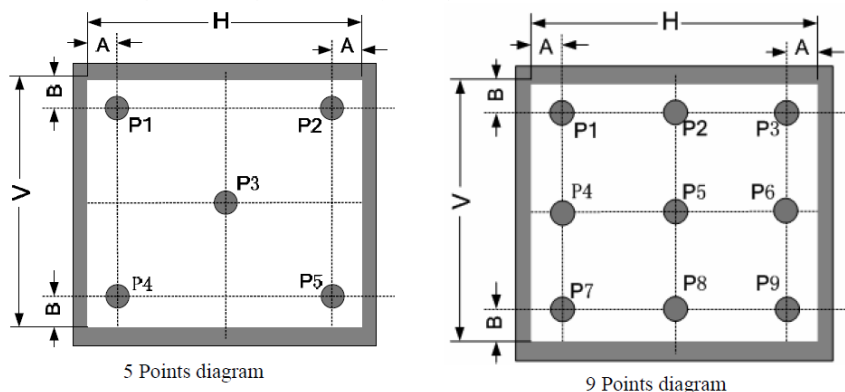

FIG 3. The definition of viewing angle
- *Note 6.** Viewing angle is the angle at which the contrast ratio is greater than 100. The angles are determined for the horizontal or x axis and the vertical or y axis with respect to the z axis which is normal to the LCD surface.For more information see FIG 3. Test equipment is ConoScope or DMS-803.
视角指对比度大于等于一个特定值2时的可视范围, 对TFT屏, 对比度特定值为10。视角由横轴 (x轴), 竖轴(y轴)同Z轴(垂直于LCD表面)之间的夹角来定义。详见 FIG3。测试设备: ConoScope or DMS-803。